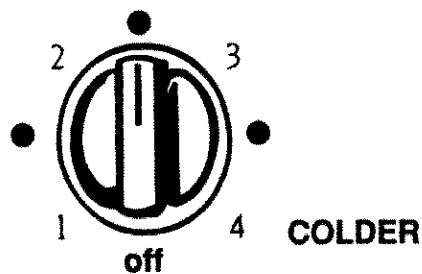

Figure 2
- Locate freezer control inside compartment at upper left front corner. Set control to "2-1/2" and adjust as desired after 24 hours. "1" is warmest setting; "4" is coldest. See Figure 2.